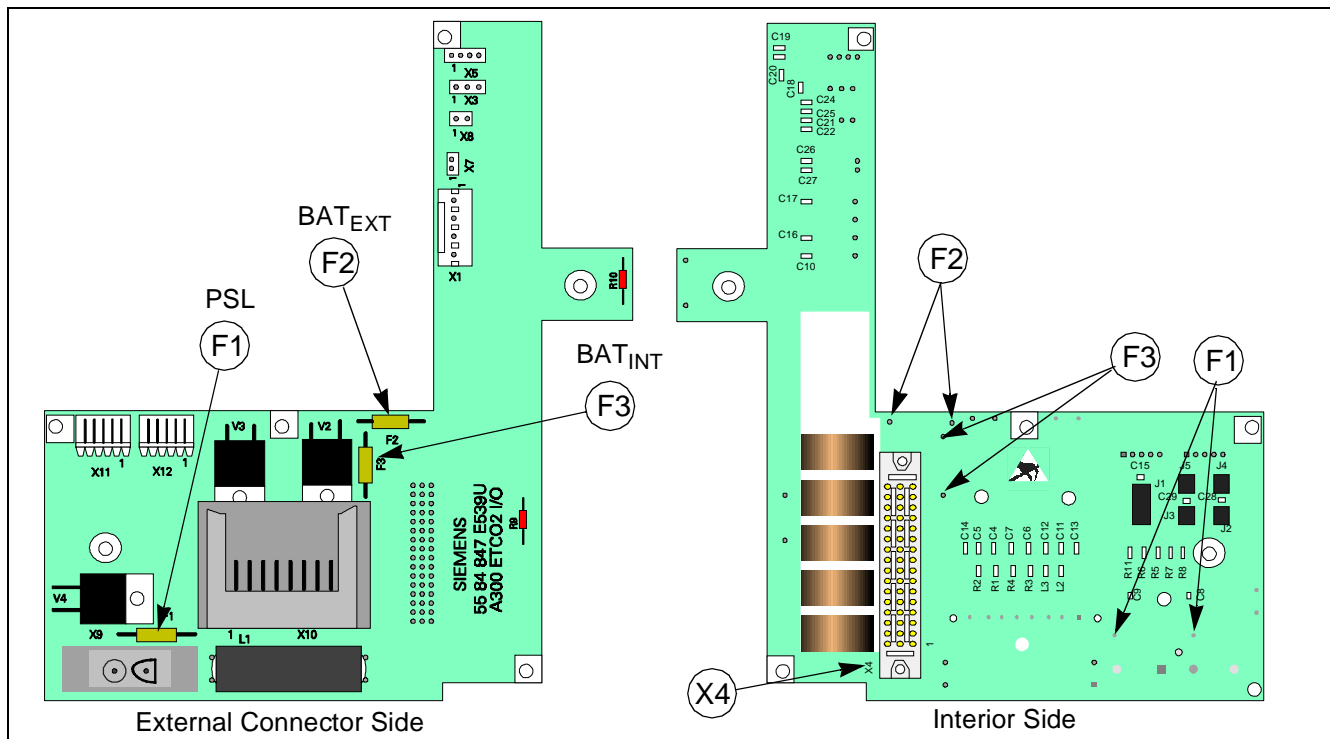

Figure 5-1 Connector I/O PCB
- 6) Check continuity of F1. See Figure 5-1 on page 76.
- 4) Check in-line fuse in power harness (if installed), and check for  $<5\Omega$  between black wire battery terminal connector and pin 4 on connector X1. See Figure 5-1 on page 76.
- 6) Check continuity of F3. See Figure 5-1 on page 76.
- 3) Remove back cover, and with external power plugged into monitor check voltage between pins 1 and 2 of X1. See Figure 5-1 on page 76
- 5) Check continuity of F2. See Figure 5-1 on page 76.
- 2) Check continuity of F1, F2, and F3. See Figure 5-1 on page 76.
- 2) Remove battery/NBP compartment access door and unplug battery power cable connector from X1. See Figure 5-1 on page 76.
11) Check continuity of F2 (if external battery problem) or F3 (if main battery problem). See Figure 5-1 on page 76.